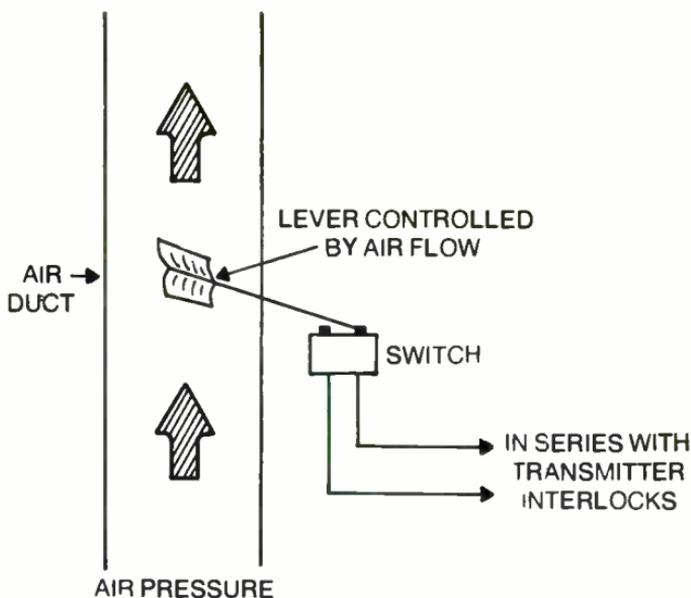

Fig. 9-11. Air interlock operation depends upon enough airflow in the duct.
**Air Interlocks**—Most high-power transmitters (and many low-power ones) will have an air interlock on the air system (Fig. 9-11). Anything that reduces the air flow and pressure below the preset value causes the interlock to open and shut the transmitter down. These are protective devices and should not be bypassed, except in an emergency and you are sure the air flow is high enough. Without adequate air flow, expensive power tubes can be very quickly damaged.